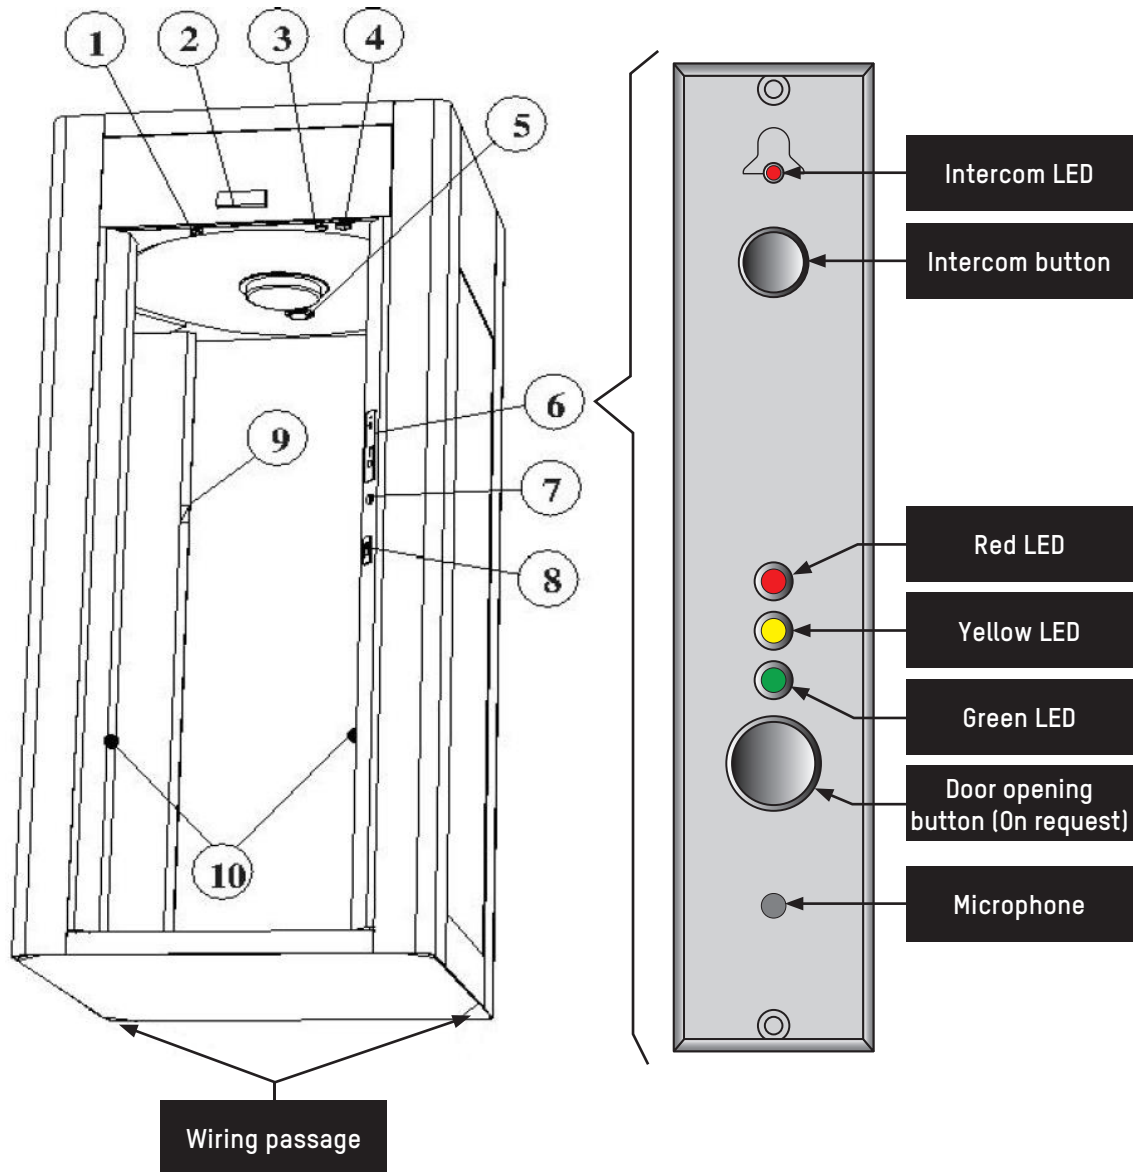

Fig. 2 - External side view
The security booth can be switched on and off with the mechanical key situated on the top of the external side of the booth (⇒ Fig. 2).
1. Press the call button (part 1, Fig. 2, page 11) situated on the side of the passage compartment and wait for the door to open